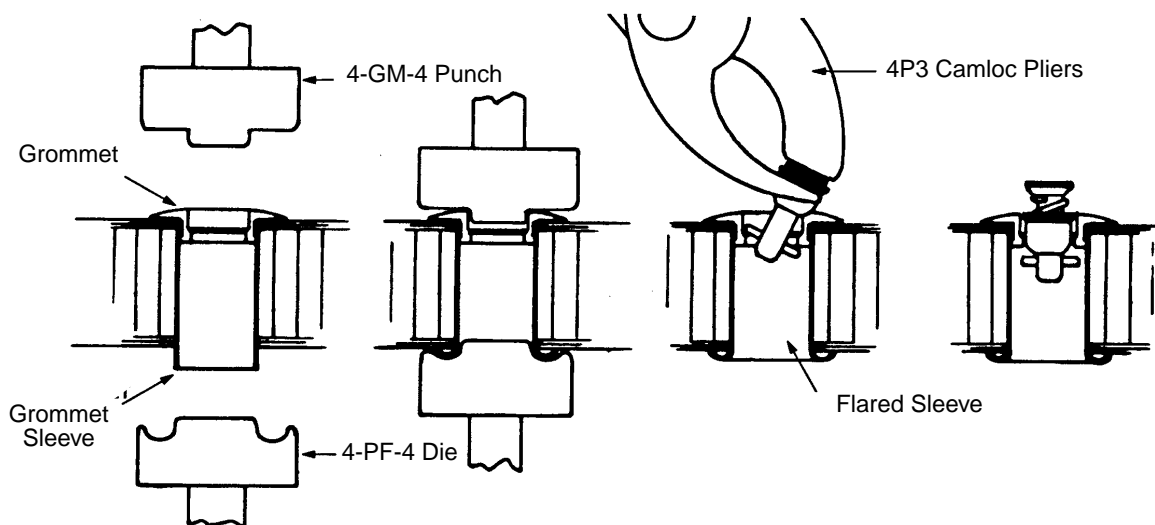

Figure 10 - Installation of 4002-P4 Fastener Grommet and Sleeve
- Step 1. Insert the grommet and flare the grommet sleeve, using a 4-GM-4 punch and 4-PF-4 die mounted in a CP450 rivet squeezer or other suitable press, as shown in Figure 10. For small production runs, it is acceptable to flare the sleeve by squeezing the punch and die in a vise (remove the shanks from the bodies of the punch and die if necessary).